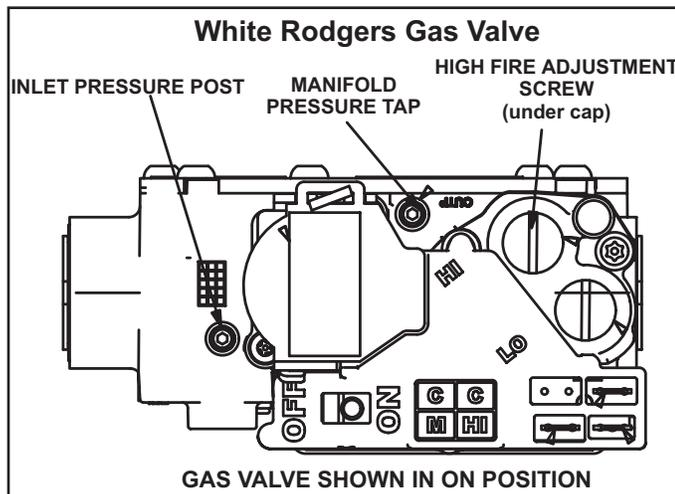
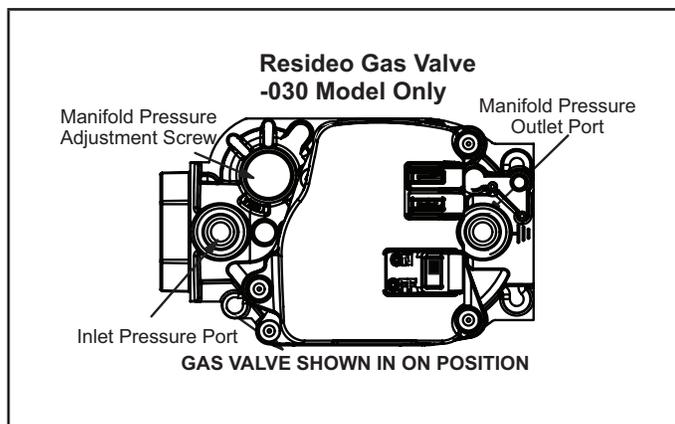

FIGURE 16
FIGURE 17
- 6 - Move gas valve switch to OFF position. Do not force. See FIGURE 16 and FIGURE 17.
- 8 - Move gas valve switch to ON position. Do not force. See FIGURE 16 and FIGURE 17.
- 4 - Move gas valve switch to OFF position. Do not force. See FIGURE 16 and FIGURE 17.
- 4 - If necessary, make adjustments. FIGURE 16 and FIGURE 17 show location of adjustment screw.